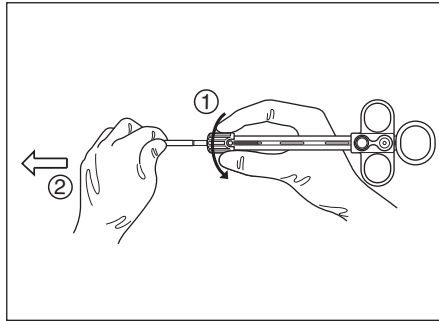

Figure 3.14
1. Turn the clamping knob (green) at the distal end of the control section clockwise and withdraw the distal end of the chuck adapter (see Figure 3.14).